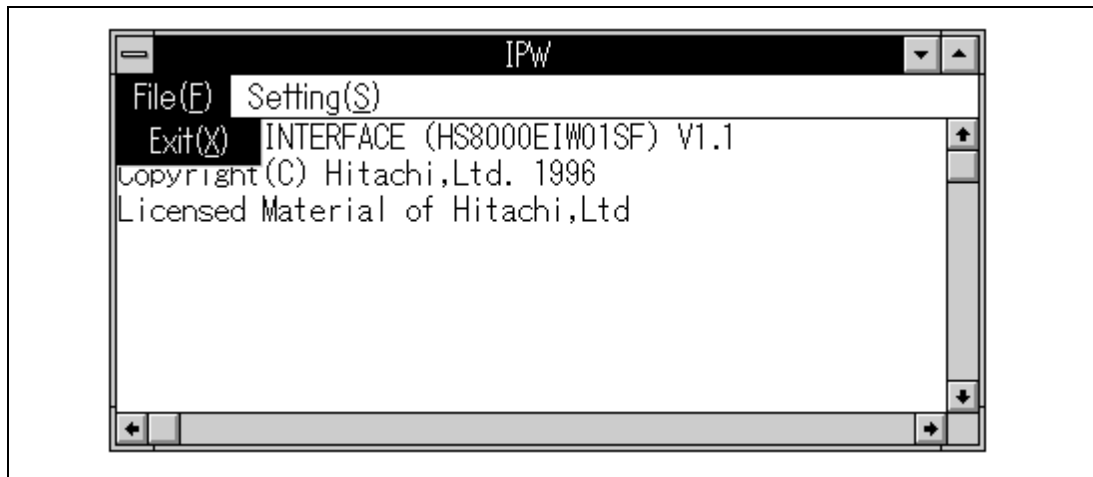

Figure 3.22 Exit Menu
3. Clicking Exit in the File menu terminates interface software IPW. Interface software IPW can also be terminated by pressing (Alt) + F keys and then the X key (figure 3.22). Note that in the following conditions a termination request is ignored and interface software IPW will not be terminated.